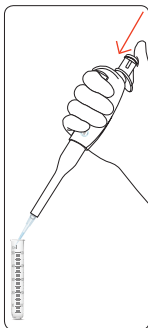

Figure 8. Dispensing Angle
3. Dispense: Place the pipette tip at an angle ( $10^{\circ}$  to  $45^{\circ}$ ) against the inside wall of the receiving vessel. Depress the push button smoothly to the First Stop. (figure 8)
3. Dispense: Place the pipette tip at an angle ( $10^\circ$  to  $45^\circ$ ) against the inside wall of the receiving vessel. Depress the push button smoothly to the First Stop. Wait one second. (figure 8)